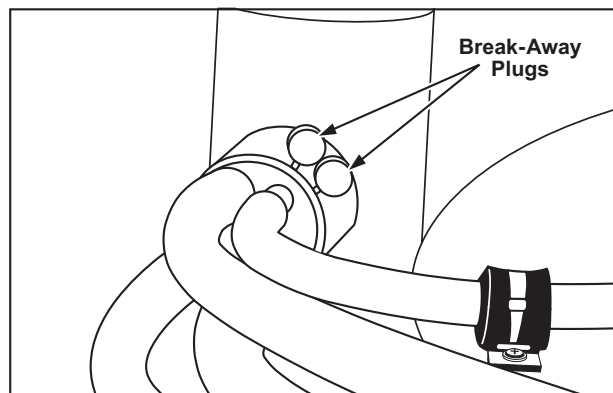

FIGURE 7.
13. Connect loose ends of the three hoses to the rest of open barbs on Reducing Tee Assembly. If any barb is left open (for instance because of the Vent Attenuation Assembly not being installed) cap it with a break-away plug found on the barbs and spigot fitting. Refer to Figure 7. Note: To avoid loss during shipping, the break-away plugs may have been plugged into barbs prior to shipment. In this case, remove them as needed prior to connecting hoses.